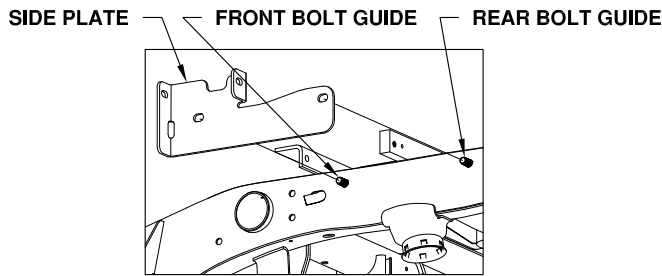
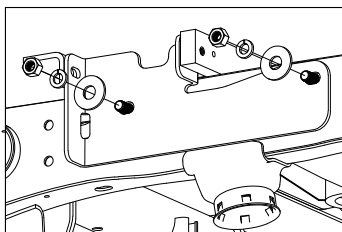
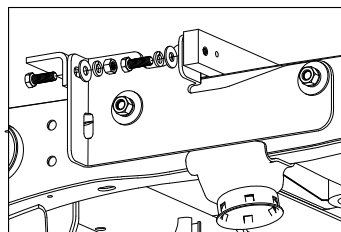

Figure C9: View from outside of Driver Side Frame
Figure C10: View from outside of Driver Side Frame
Figure C11: View from outside of Driver Side Frame
3. **Install the side plates.** Place each side plate over the $\frac{5}{8}$ " bolts held in place by the bolt guides, see Figure C9. Attach the side plates to the frame with a flat washer, lock washer, and nut, see Figure C10. Attach the side plates to the front and rear cross members with $\frac{1}{2}$ " hardware as shown in Figure C11. Do not tighten the $\frac{5}{8}$ " or $\frac{1}{2}$ " hardware at this time.